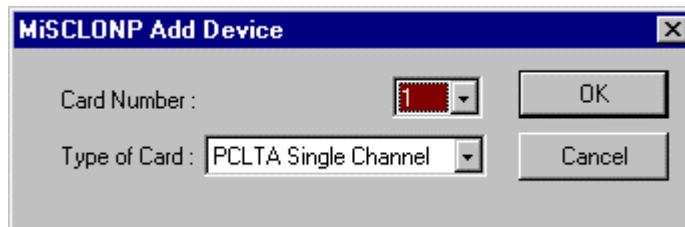

Figure 11. Add Device dialog
- 2 Select Add Device to bring up the dialog shown in Figure 11: